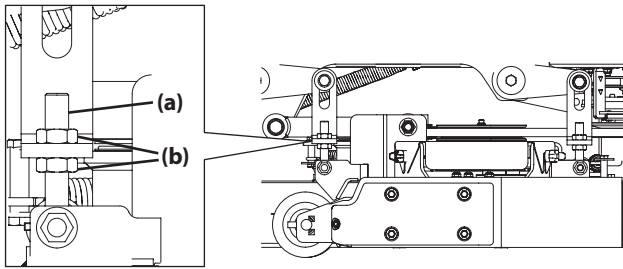

Figure 26
3. Adjust the eyebolt (a) at the left front of the deck so that the blade-to-ground height at the right outside blade tip matches that of the left outside blade tip. This is done by loosening the jam nut (b) on the eyebolt (a) and tightening the upper jam nut (b) to raise the deck and loosening the jam nut (b) to lower the deck. The right outer blade tip height is fixed by the right, front eyebolt (a) so you must adjust the left outer tip to match it. See Figure 26.
3. Loosen the jam nuts (b) at the rear left and right of the deck eyebolts (a). Refer to Figure 26.